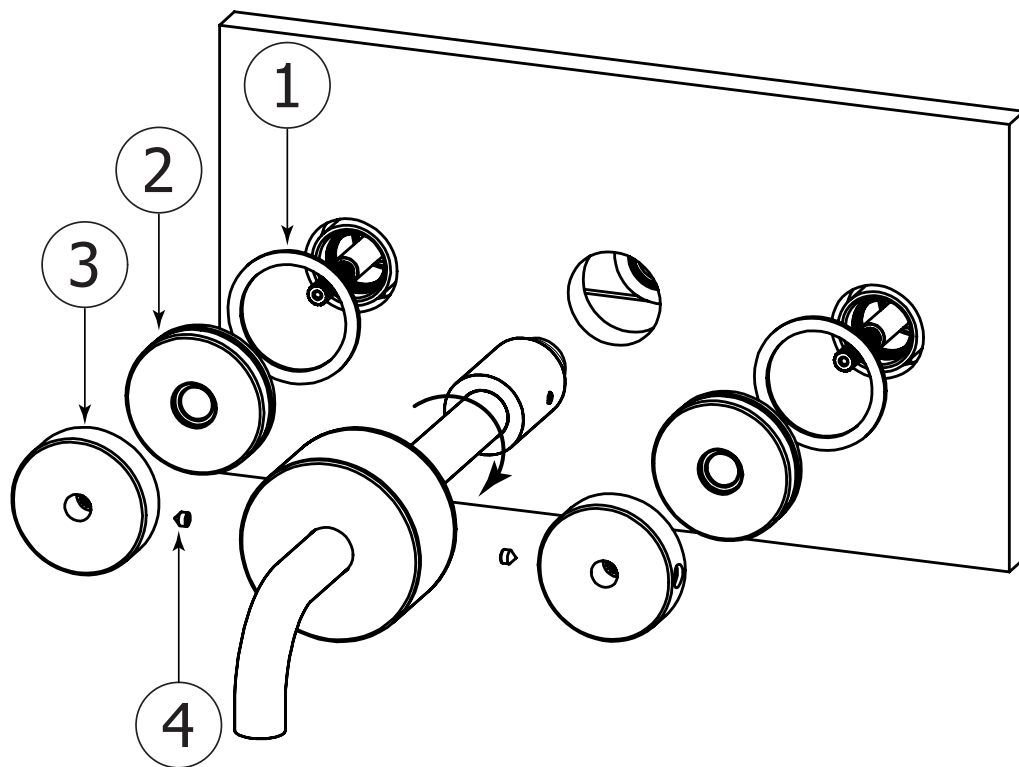

Fig. 6
- Fig. 6:** Position the gasket (1) into the marble support (2), inserting it into the body. Place the handle (3) on the broach, inserting the Teflon ring. Verify the correct position of this handle considering the opening/closing control. Screw the spout in place.